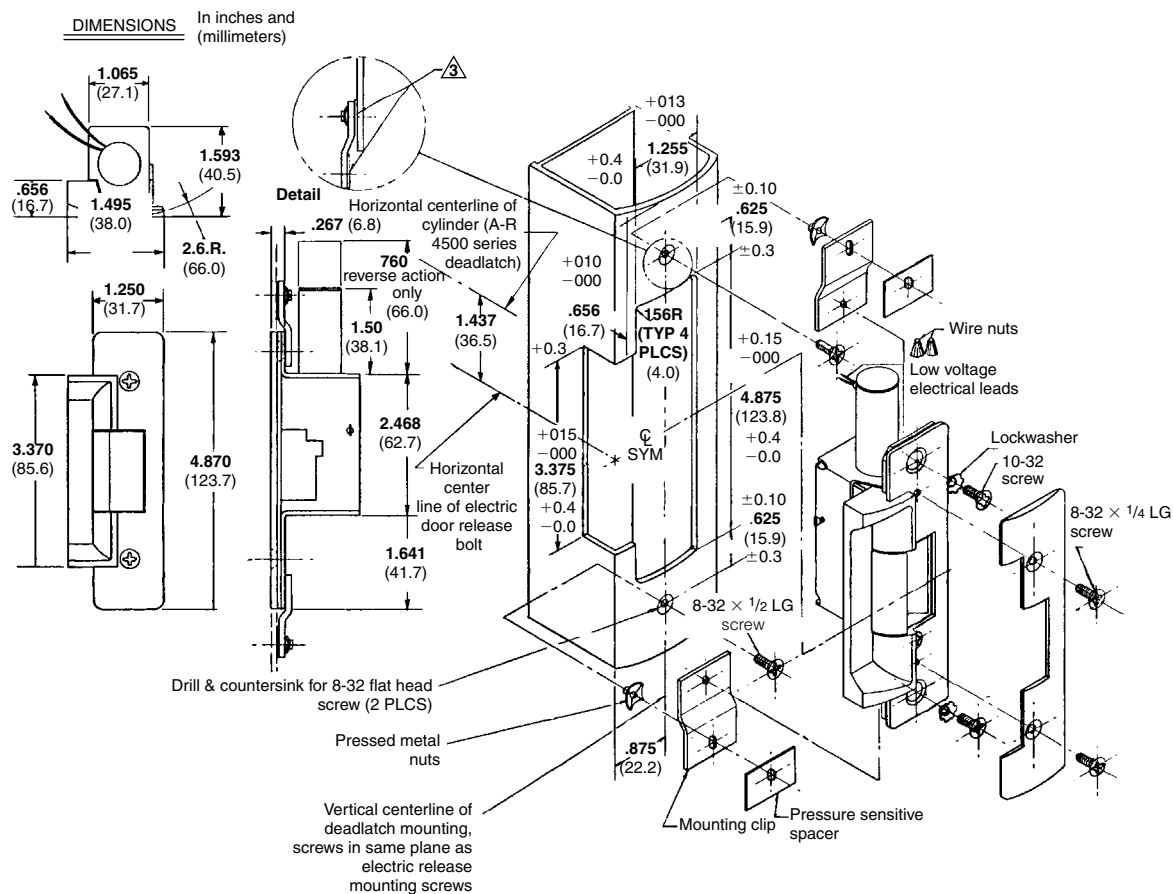

Figure 19.2 Jamb specifications and installation details for a radial (curved) aluminum door jamb. (Adams Rite Mfg. Co.)
1. Prepare the door jamb per Fig. 19.2.
3. Spacers are provided to assure flush final assembly of the faceplate and jamb. Add one or more spacers between the jamb and mounting clip when the faceplate extends beyond the jamb. When the faceplate sets inside the jamb, you must add spacers between the mounting clip and the electric strike case. See detail "A" in Fig. 19.2. To attach spacers to the mounting clip, remove the protective coating from the spacer and press to the desired mounting clip surface. Make sure the clearance hole in the spacer aligns properly with the hole in the mounting clip.
Figure 19.2 also shows the dimensions of the electric door release that would be installed in the aluminum jamb.